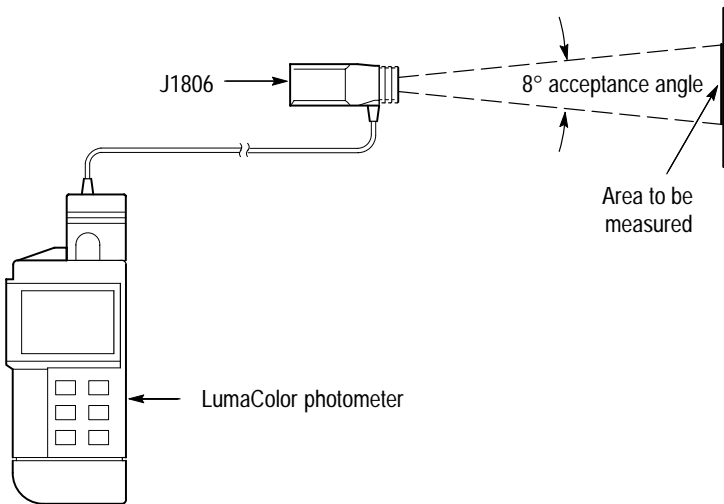

Figure 1–10: J1806 setup for surface radiance measurements
3. Position the J1806 so that its acceptance angle is within the surface to be measured. If the surface is illuminated from the same direction that you are taking the measurement from, use care to avoid shadowing the surface. Refer to Figure 1–10.